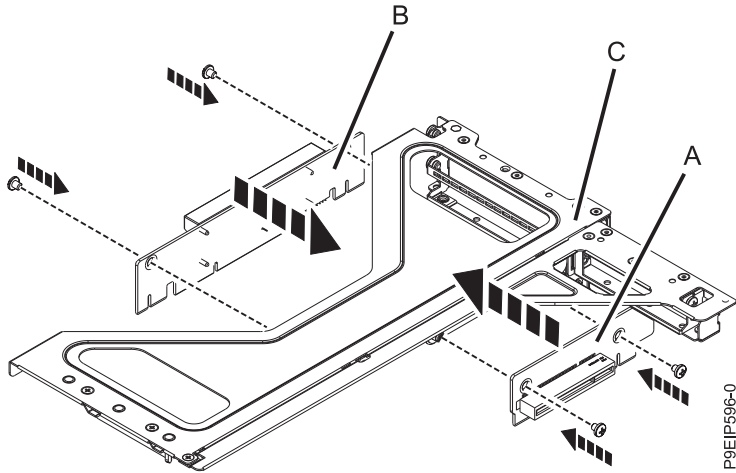

Figure 41. Replacing the PCIe riser cards in the adapter cage
5. If you need to replace the riser card (A), or (B); replace the screws that secure the PCIe riser card to the cage (C) as shown in Figure 41 on page 37.